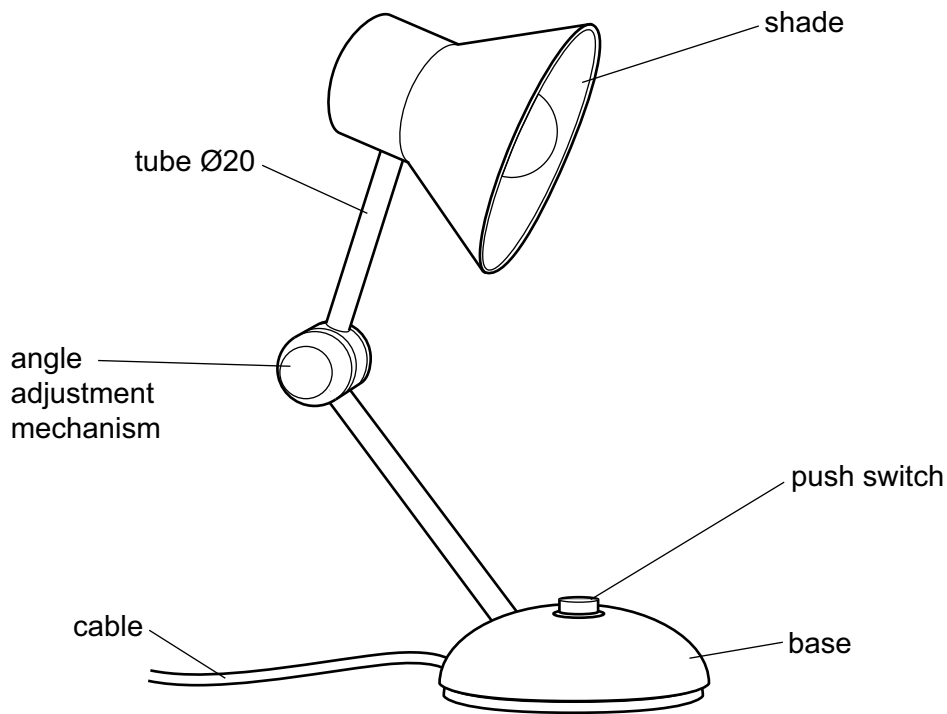

Figure 1.1
- 1 Figure 1.1 shows a design for an adjustable desk lamp.